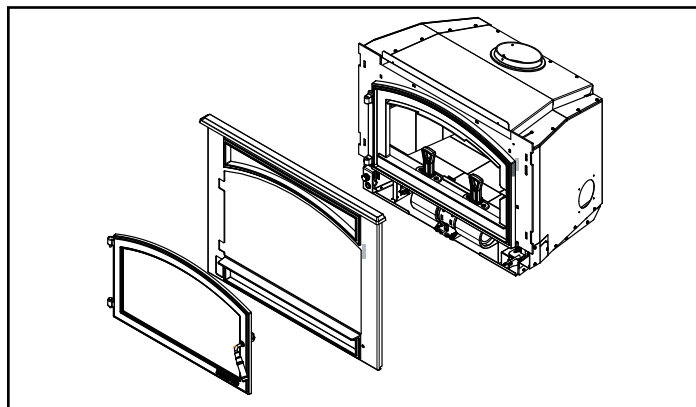

Figure 5.3
2. Remove the door by lifting the door up and off of the hinges; set aside (**Figure 5.3**).
3. Remove the fascia by lifting up and off of the appliance; set aside (**Figure 5.3**).